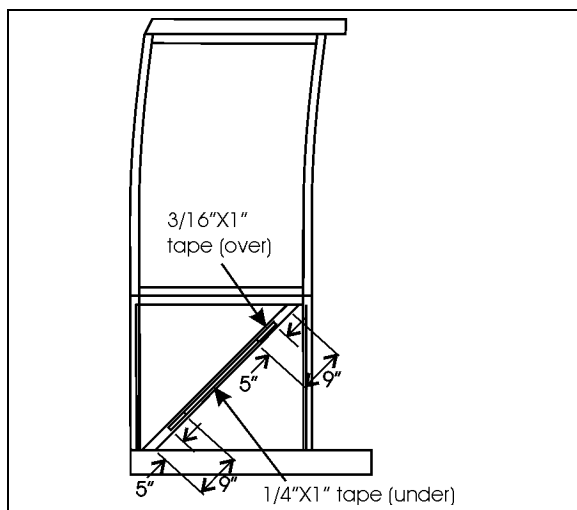

FIGURE 41 : SIDE PANEL INSTALLATION – DOUBLE FACE ADHESIVE TAPE APPLICATION ON THE SLIDE-OUT STRUCTURE (FRONT SLIDE-OUT ONLY)
- Refer to figure 41 for 1/4X1 (#5060038) and 3/16X1 (#506207) double face adhesive tape location on diagonal member of front slide-out only. Do not remove the tape blue protective layer;